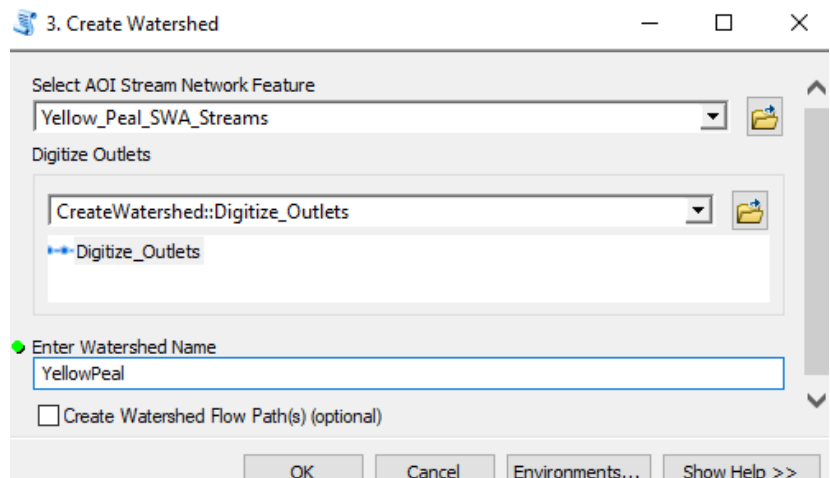

Figure 50. Create Watershed
- Select AOI Stream Network Feature: Open the drop-down menu and select the stream network that was created in the last step (Figure 50).